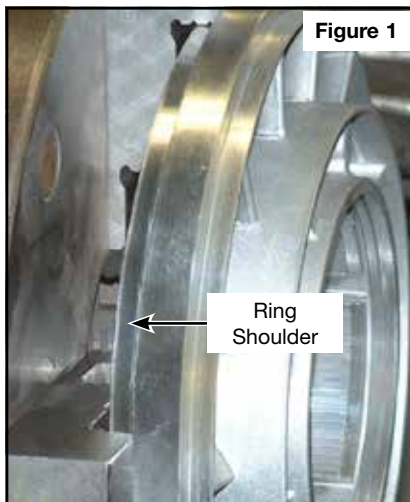

Figure 1
- Chuck the stator in a lathe from the impeller side, holding onto the machined surface on the outer ring shoulder (**Figure 1**).